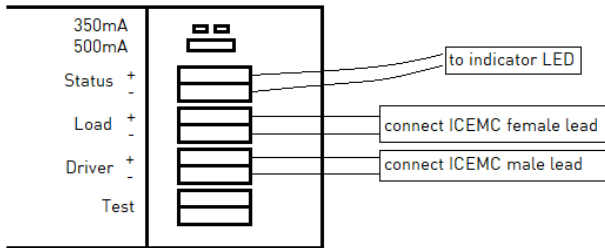

Fig. 2
- If using this kit with the VFRIC8xx range, remove the terminal cover on the end of the emergency kit and replace the two plug-in leads with the ICEMC leads (not included): brown (+), blue (-) (see Fig. 2). Replace the terminal cover and plug these into the downlight and driver as above